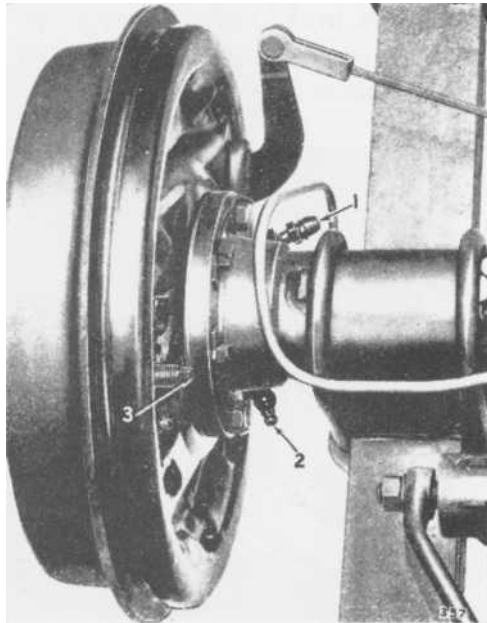

Fig. 12 . Brake Backing plate Details.
Every 6,000 miles, give five strokes of the grease gun to a nipple (2) (Fig. 12), situated behind the rear backing plate and facing downwards.